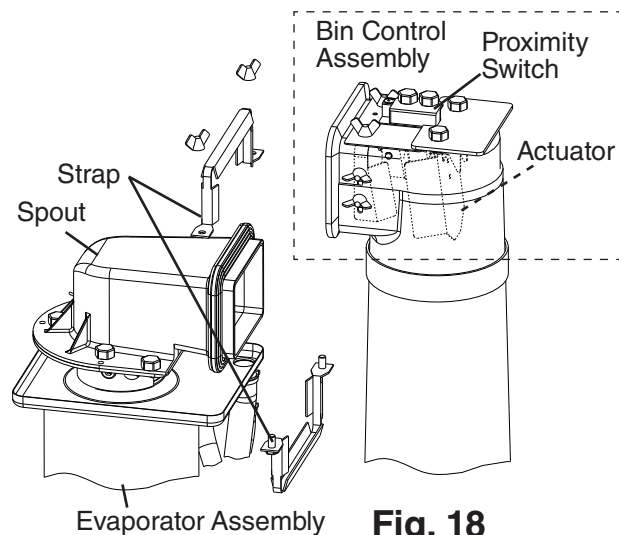

Fig. 18
- c) Remove the strap connecting the spout to the chute assembly. See Fig. 18. Pull up the chute assembly slightly so that you can access the actuator located in the top of the chute.